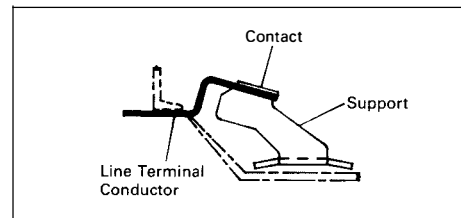

Figure 3-8. FD/FW Stationary Contact Assembly
The EHD, FDB, FD/FW circuit breakers use a conventional stationary contact assembly (Figure 3-8). It consists of a line terminal copper conductor and a silver tungsten (EHD, FDB, FD) or silver graphite (FW) contact.